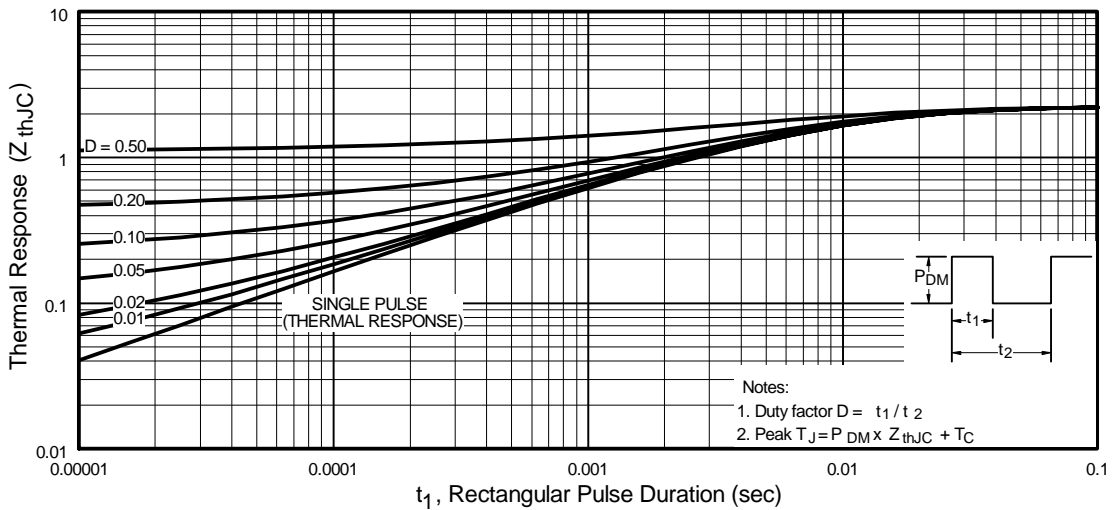

Fig 11. Maximum Effective Transient Thermal Impedance, Junction-to-Case
- ① Repetitive rating; pulse width limited by max. junction temperature. (See fig. 11)
- ② V_{DD} = 25V, starting T_J = 25°C, L = 410μH